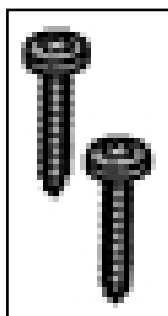

Fig. 3
- No. 2 chipboard screws 4.5×16 mm for front mounting of the packaging machine to the unit (**Fig. 3**).